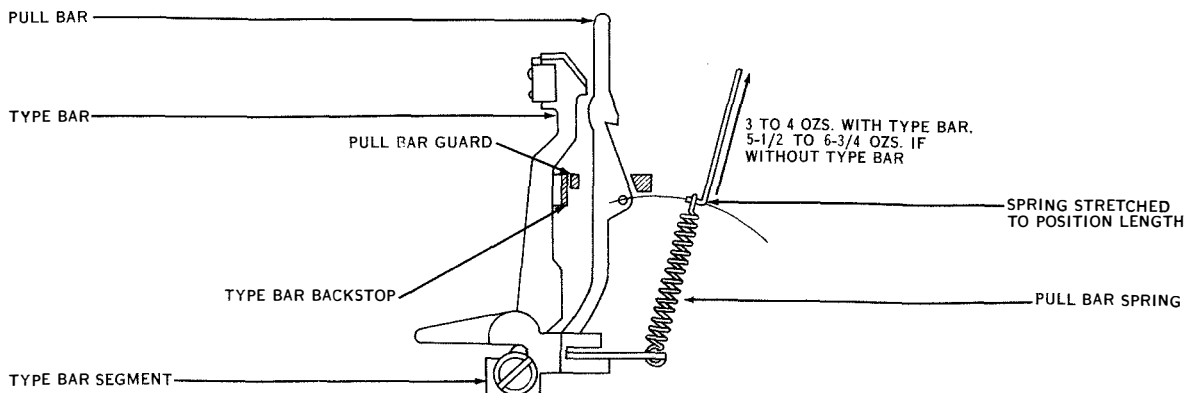

Figure 7-39. Pull Bar Spring Tension
(28) **PULL BAR SPRING TENSION.** (See figure 7-39.)—A tension of 3 to 4 ounces should be required to extend any pull bar spring associated with a type bar to its position length, and a tension of 5½ to 6¾ ounces to extend any pull bar spring without an associated type bar. To check, unhook the spring from each pull bar. With an eight-ounce scale held in a vertical position, hook the scale in the spring eye.